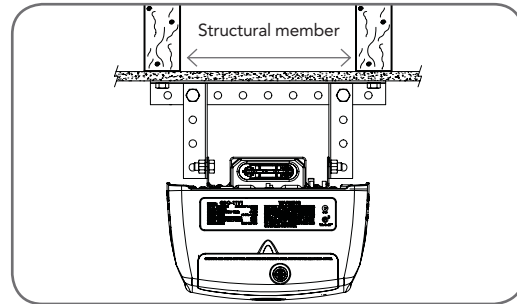

fig 13
- Secure the perforated angle (not supplied) to the ceiling above where drive unit's mounting holes will be once fully installed. A representative mounting is shown (**Fig. 13**)